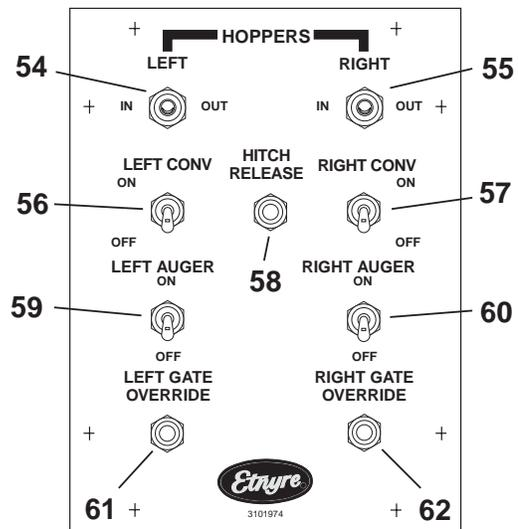

Figure 9. Front Operator's Control Panel
Items 54 thru 62 are located in the front operator's control box (figure 9)
54. Left Hopper Switch (Figure 9)
55. Right Hopper Switch (Figure 9)
56. Left Conveyor Switch (Figure 9)
57. Right Conveyor Switch (Figure 9)
58. Hitch Release Pushbutton (Figure 9)
59. Left Auger Switch (Figure 9)
60. Right Auger Switch (Figure 9)
61. Left Gate Override Switch (Figure 9)
62. Right Gate Override Switch (Figure 9)